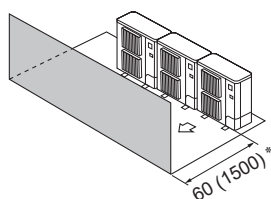

Fig. 2-13
- ③ Obstacles at front (Fig. 2-13)